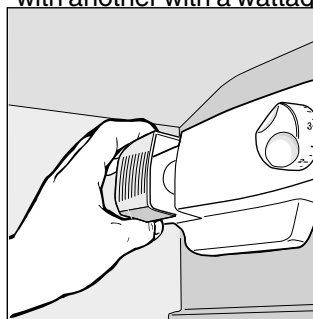

Fig. 6
- Replacing the light bulb. The bulb for lighting the interior of the refrigerator is located at the back of the thermostat box. When replacing the lamp, unplug the appliance from the electrical socket, unscrew the burned out lamp and replace it with another with a wattage no higher than 15W (fig. 6).